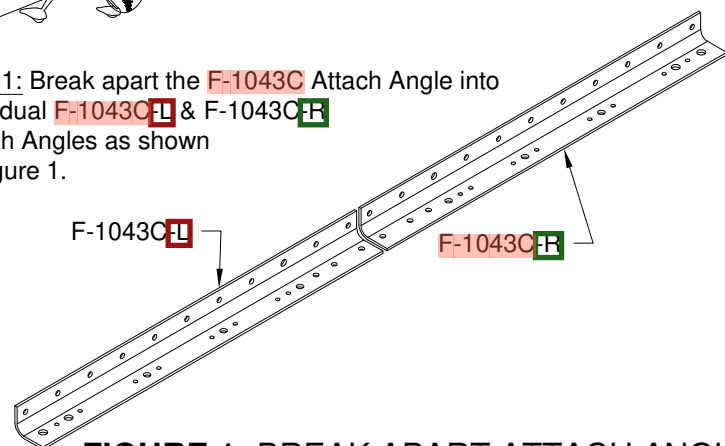

FIGURE 1: BREAK APART ATTACH ANGLE
Step 1: Break apart the **F-1043C** Attach Angle into individual **F-1043C-L** & **F-1043C-R** Attach Angles as shown in Figure 1.